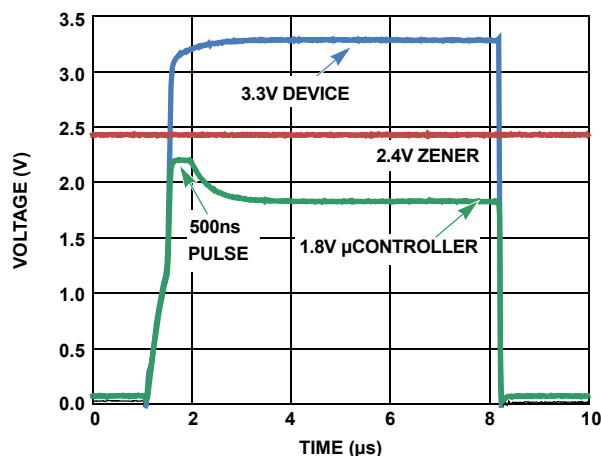

FIGURE 2. 1.8V TO 3.3V LEVEL SHIFTING
3. Providing protection on the 1.8V microcontroller against the potential overcurrent caused by the rise time accelerators on the buffer. A critical concern is the rise time accelerator from the I²C buffer damaging the 1.8V microcontroller. ESD diodes internal to the microcontroller are forward biased at ~0.5V above its supply rail. While the rise time accelerators drive the bus to 2.4V, they are active for only ~500ns (see Figure 2). If overcurrent is a concern, a series resistor on the I²C SDA (Data) and SCL (Clock) lines of 10Ω limits the current to protect the microcontroller. Assuming a worse case 0V diode conduction, the peak current is limited by the capability of the rise time accelerator circuit on the buffer, in this case 5mA. From a voltage standpoint a 1.8V to 3.3V microcontroller has an absolute maximum voltage in the 3.6V range, much less than the 2.4V from the accelerator drive.